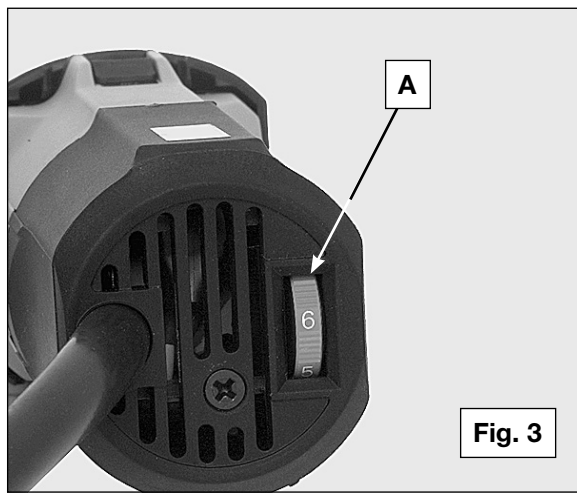

Fig. 3
Adjust the speed by turning the thumbwheel (A) Fig. 3. Thumb-wheel position #1 provides the slowest operating speed (2500 OPM) and position #6, the fastest (6000 OPM). You can change the speed while the motor is running or while it is stopped.